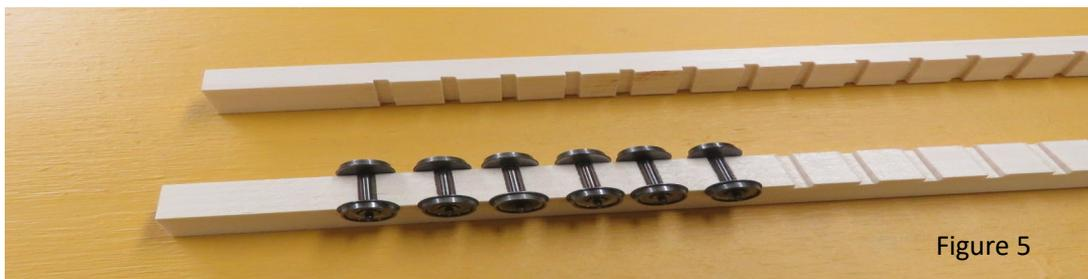
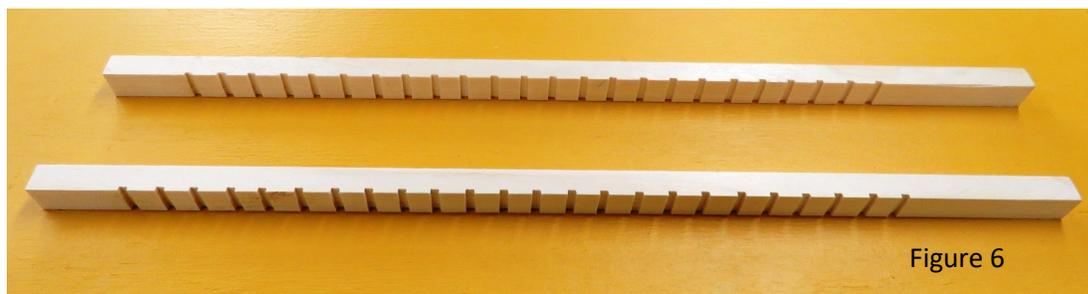

Figure 5
Figure 6
I started constructing the design by cutting wood stock no wider than the inside dimension of an HO wheelset (Figure 5). I wanted to paint a large number of wheels in one setting so I spaced out 1/8" saw kerfs allowing for twenty-four (24) wheelsets in the jig. In this manner I could paint wheels for ten (10) cars in one session (Figure 6).